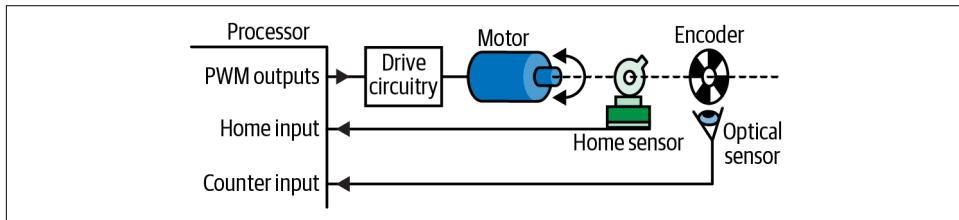

Figure 14-1. Motor and encoder system.
**Figure 14-1** shows a simple motor system with some PWM control lines going to a motor. As the motor rotates, the encoder rotates with it (the dashed lines indicate the mechanical black box that includes gears and whatnot). An optical sensor sees the black and white areas on the encoder. The sensor connects to a counter on the processor and measures the relative position.
For DC motors, speed is proportional to the voltage you supply. They are usually controlled by PWMs as shown in **Figure 14-1**. The higher the duty cycle of the PWM, the higher the average voltage, and the faster the motor turns.